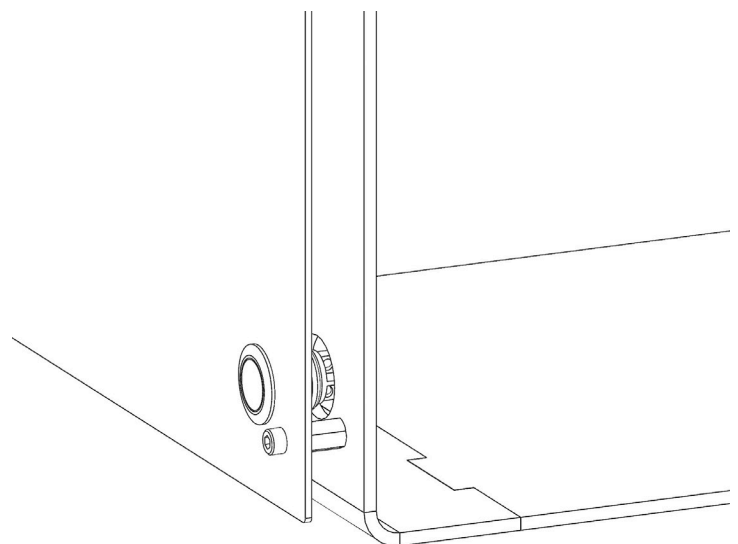

fig. 3
7. Fasten the backplate into place behind the motherboard. Mount the provided 16mm button onto the hole in the front plate. Screw the ferrules of the power wire into the button contacts and mount the front plate so the button fits into the through hole on the chassis (fig. 3).